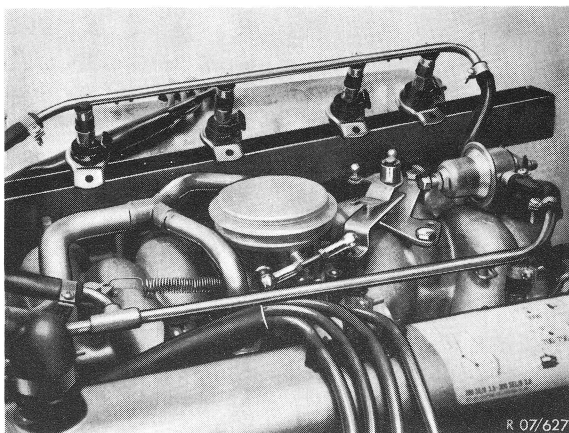

Fig. 5
d) Check injection valves by removing injection valves together with ring line, placing fuel collecting vessel underneath (Fig. 5).